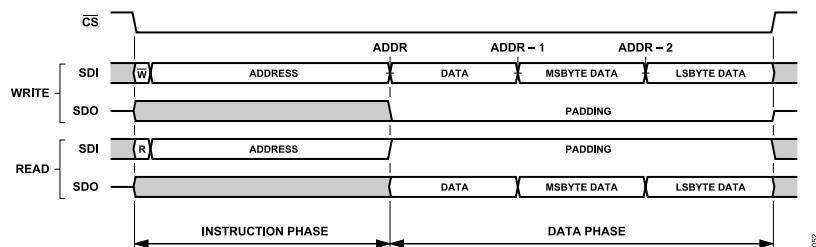
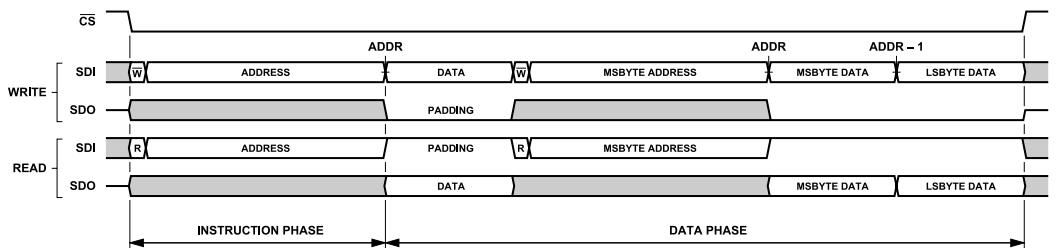
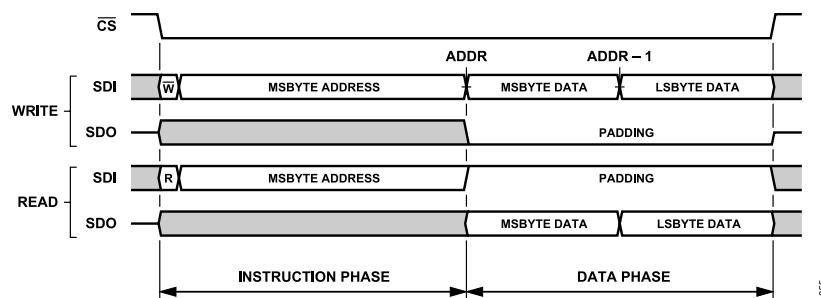
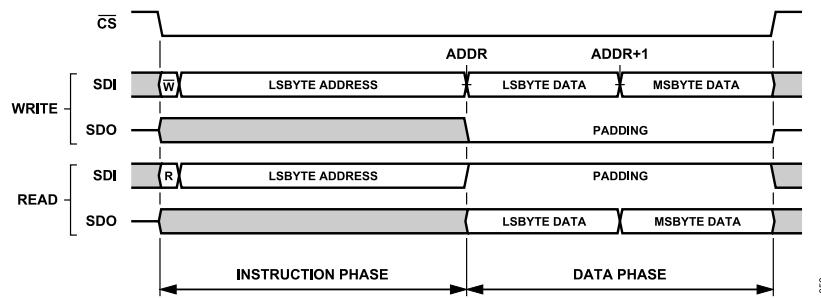

Figure 55. Interface Access Example, Default Interface Configuration, Streaming Mode (ADDR_ASCENSION = 0)
Figure 56. Interface Access Example, Single Instruction Mode (SINGLE_INST = 1), All Other Interface Options Default
Figure 58. Single Instruction Format, ADDR_ASCENSION = 0 (Descend), STRICT_REGISTER_ACCESS = 1 (Enabled)
Figure 59. Single Instruction Format, ADDR_ASCENSION = 1 (Increment), STRICT_REGISTER_ACCESS = 1 (Enabled)
Figure 55 illustrates the generic SPI frame formatting for a serial transaction using the default interface configuration. In this example, a portion of the configuration register space consisting of a byte-wide register and a multibyte register is accessed. The address for the byte-wide register resides in the most significant address (ADDRESS) and the most significant byte of the multibyte register resides in the least significant address of the register segment. By default, the ADDR_ASCENSION property is set to descending, indicating that the address for the most significant register is passed to the host controller during the instruction phase. Depending on the selected operation, the instruction word
In single instruction mode (SINGLE_INST = 1), the memory access controller requires an instruction phase to transmit for each register accessed in a given SPI frame as illustrated in Figure 56. This mode is useful when access to nonadjacent sections of the register space is required in a given SPI frame. Note that, the same access flexibility can be achieved in stream mode by initiating a new SPI frame for each unique register access.
The address ascension selection (ADDR_ASCENSION) bit, as described in previous sections, determines how the internal interface address pointer is updated for each byte of data transmitted to the AD4080 in streaming mode (SINGLE_INST = 0). If using single instruction mode (SINGLE_INST = 1), each register is directly addressed through its own instruction phase as illustrated in Figure 56, and thus, the address pointer is not updated. Regardless of the setting for SINGLE_INST, the ADDR_ASCENSION bit directly impacts the formatting of the SPI frame in terms of selection of the instruction phase starting address and byte order of the data phase payload. This impact is described in greater detail in the Strict Access Selection and Multibyte Registers section as much of the data formatting is dependent on this interface configuration selection. The ADDR_ASCENSION selection bit is located in the Interface Configuration A register (see the Interface Configuration A Register section, Address 0x00).
As indicated in Figure 58, the address counter, by default, automatically decrements (ADDR_ASCENSION = 0) such that the most significant byte of the multibyte register is accessed first, followed
As an extension of this concept, when STRICT_REGISTER_ACCESS = 1, any SPI frame that accesses a multibyte register as the first entity in the data transfer must correctly set the starting address in the instruction word to correspond to the ADDR_ASCENSION selection. In the case that the address counter automatically decrements (ADDR_ASCENSION = 0), the starting address is assigned to the register address for the least significant byte of that multibyte register, and conversely, if configured to increment automatically, the starting address must be set to the register address for the most significant byte. As a result of the change to ADDR_ASCENSION from automatic address decrement (0) to automatic increment (1), Figure 55 and Figure 56 will change as illustrated in Figure 58 and Figure 59 to accommodate the changes in data phase byte order and instruction phase multibyte register start address.